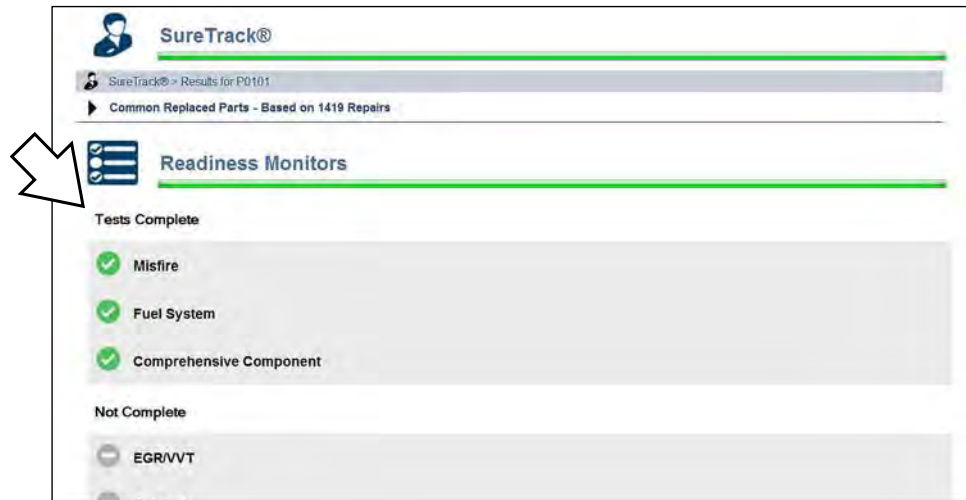

Figure 4-22
- **Readiness Monitor Test Status.** At the end of the Code Scan Report, readiness monitor test results are displayed as “Tests Complete” or “Not Complete” (Figure 4-22).